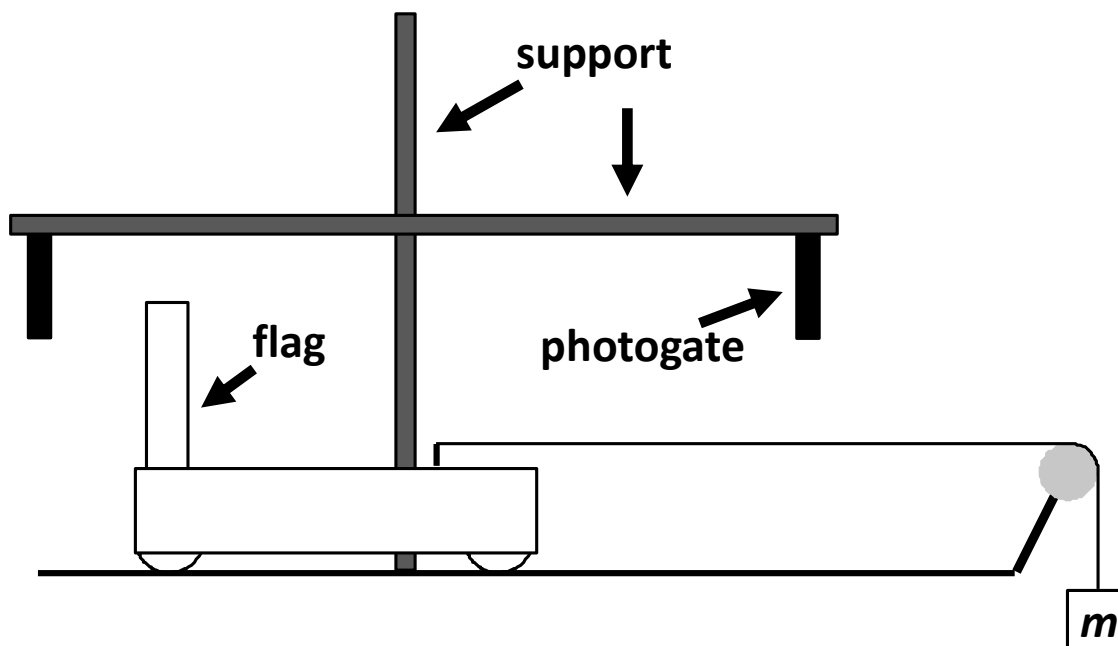
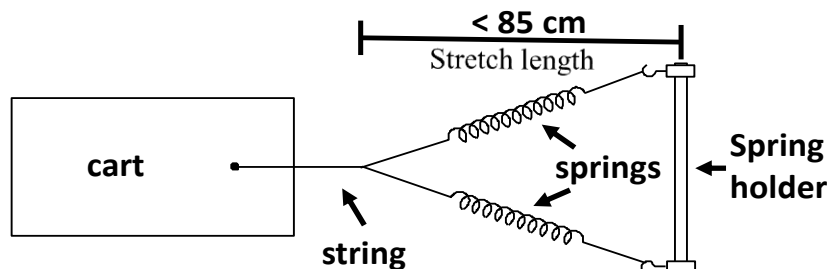

Fig. 1 Arrangement for pulling the cart with a weight (side view).
Fig. 2 Arrangement for pulling the cart with the spring apparatus.
To see how this works, we will deal with a slightly simplified situation in which the motion is restricted to a straight line. Forces will be applied by hanging mass, m , as in Fig. 1 or by springs as in Fig. 2 and, inevitably, by friction. Calling the force pushing the object of interest F and the friction force f , Eq. 1 reduces to
Set up the cart and hanging mass, as suggested by Fig. 1. Attach the metal flag vertically to the magnet at the side of the cart (make sure the long sides of the metal flag sits as perpendicularly as possible to the cart) and adjust the height of the gates so that the metal flag goes through the photogates without hitting. **Plug the power adapter for the “Vernier Lab pro” box into a power outlet if you have not already done so.** Start LoggerPro from the file **Work.cmb1** **from the computer desktop** to get the proper settings for the photogates.
Now set up the cart and spring apparatus as in Fig. 2, fastening the springs to the anchor at one end of the bench and connecting the spring assembly to the cart with a string. Pull the cart back to stretch the springs and release the cart so that it travels straight toward the anchor, being sure that the flag goes through the photogates. The net force on the cart in this set up is non-constant and non-zero. **Do not extend the spring apparatus over 85 cm as indicated in Figure 2** to avoid permanent deformation. You can find the change in kinetic energy with the photogates as you did previously.
When setting up your cart and spring apparatus for this part of the experiment, **the stretch length of the spring apparatus needs to be at least 16 cm when the flag of the cart is at the photogate closest to the end of the table where the spring holder is attached to the table. The stretch length is the distance between the spring holder and the knot that ties the springs to the string as indicated in figure 2.**
You will need to repeat the measurement three times with the same initial stretch length to get an average for ΔK . To find the work done by the springs you will need to measure their force as a function of their stretch length, and then integrate over the distance between the photogates. **The stretch length is the distance between the spring holder and the knot that ties the springs to the string as indicated in figure 2.** You need to first find the stretch lengths of the spring apparatus when the flag is in each photogate. This can be done by positioning the cart in each gate and measuring the distances from the spring holder to the knot in the string when the metal flag is in each photogate. **The integration will be done over this range of stretch length.**
Next, you can determine the spring force as a function of stretch length. There are vertical supports at the two tables at the back of the room near the printer which you can use to suspend weights from your spring assembly. The stretched length is defined the same way as shown in figure 2 **(From the spring holder to the knot that ties the springs to the string).** The weight you attached to the spring apparatus is the applied force to the spring apparatus. **Plot the applied force to the spring apparatus (F) vs stretched length. The applied force F must be the values plotted on the vertical axis.** Following Eq. 2, use LoggerPro **to integrate** the force over the range of stretch length between which the cart passed through the two photogates and thereby find W_F .